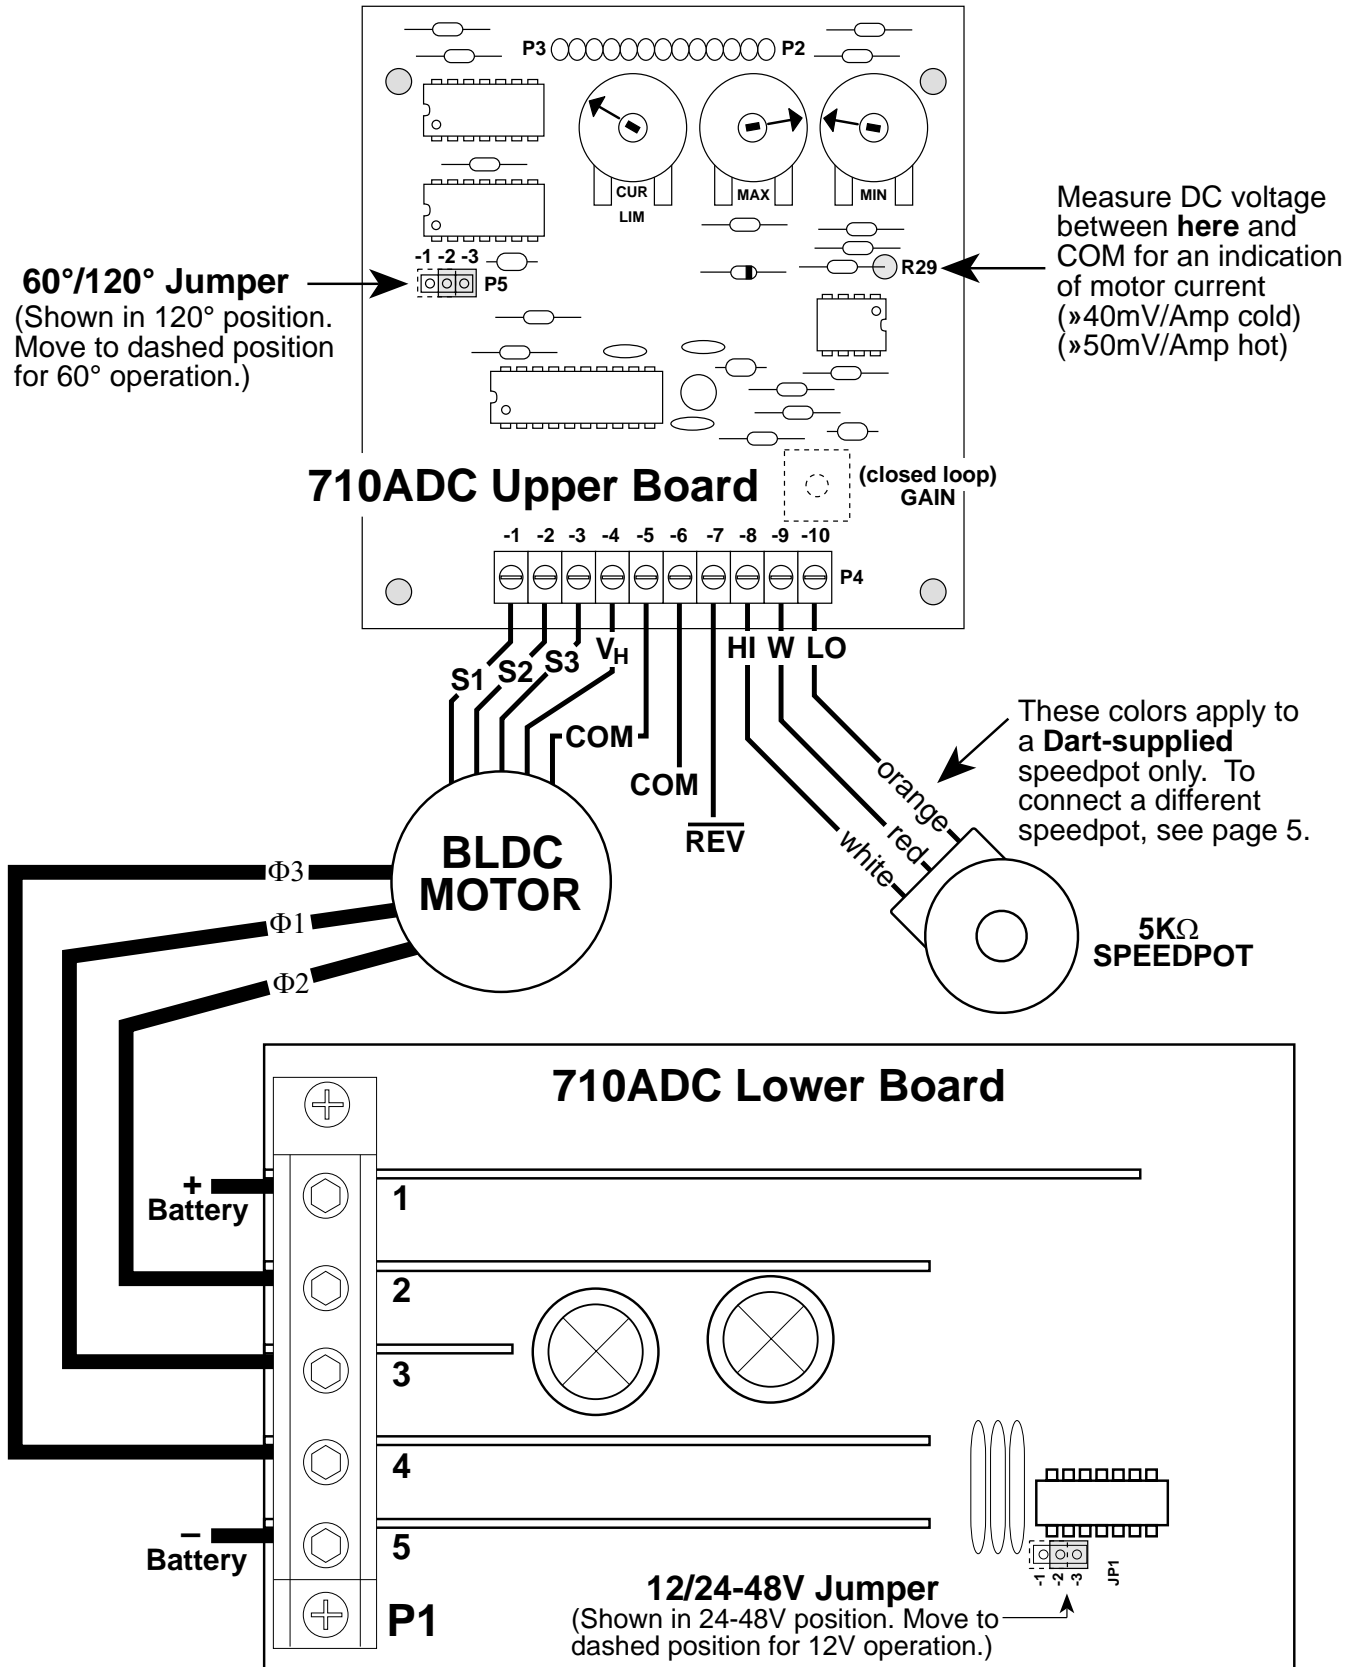

Figure 1
All BLDC motors, no matter what the hook-up status, are connected to the 710A Series control as shown in figure 1 (page 4). Power is connected to terminals P1-1 and P1-5 on the lower board. The power should be off until the hook-up procedure is complete.
There is a jumper on the **lower board** to accommodate two ranges of dc source voltage. This jumper is shown near the bottom of Figure 1 (page 4). If you have a 12 volt DC source, the jumper must be placed in the left-most (dashed) position, as illustrated in Figure 1. With DC sources from 24 to 48 volts, the jumper must be placed in the right-most (solid) position, which is also illustrated in Figure 1.
There is a jumper on the **upper board** to switch between 60° and 120° Hall sensor spacings. This jumper is shown in the upper left portion of Figure 1 (page 4). Place this jumper in the left-most (dashed) position for 60° operation, or in the right-most (solid) position for 120° operation.
Once the spacing is determined, return to the section "60°/120° Sensor Spacing" (page 5 above) and make sure the control is set correctly. Return to Figure 1 and connect the sensors to terminals P4-1 through P4-3. Notice that for the 60 degree spacing there is a specific sensor line that leads the sequence, followed by a line lagging by 60 degrees, and a third line lagging the second by 60 degrees. It is important that the middle line in the train be connected to terminal P4-2.
After the sensors are connected, attach the sensor power line (notated by V_H in Figure 1) to terminal P4-4. The sensor common line (notated by COM in Figure 1) is connected to terminal P4-5. Now attach the three motor armature wires and test for proper hook-up.
- 1) Refer to figure 1 on page 4. Measure the DC voltage (with reference towards COM) at the point indicated on the upper board, then divide by 40mV to obtain the motor current in amperes.
Controls designated 711BDC are closed loop devices. These controls use additional circuits to transform the sensor signals into tachometer information, and accurately control the speed of the motor. Hook-up procedures are identical to the open loop series, however, there is an extra trimpot labeled **Closed Loop Gain** (Shown in Figure 1 on page 4). This allows the flexibility to properly control motors in a wide spectrum of speeds.
- 1) Set the Maximum Speed (MAX.) trimpot to the position shown in Figure 1 on page 4.
- 3) Advance your speedpot to the fully clockwise (CW) position. Your motor should now be spinning at its maximum speed.*